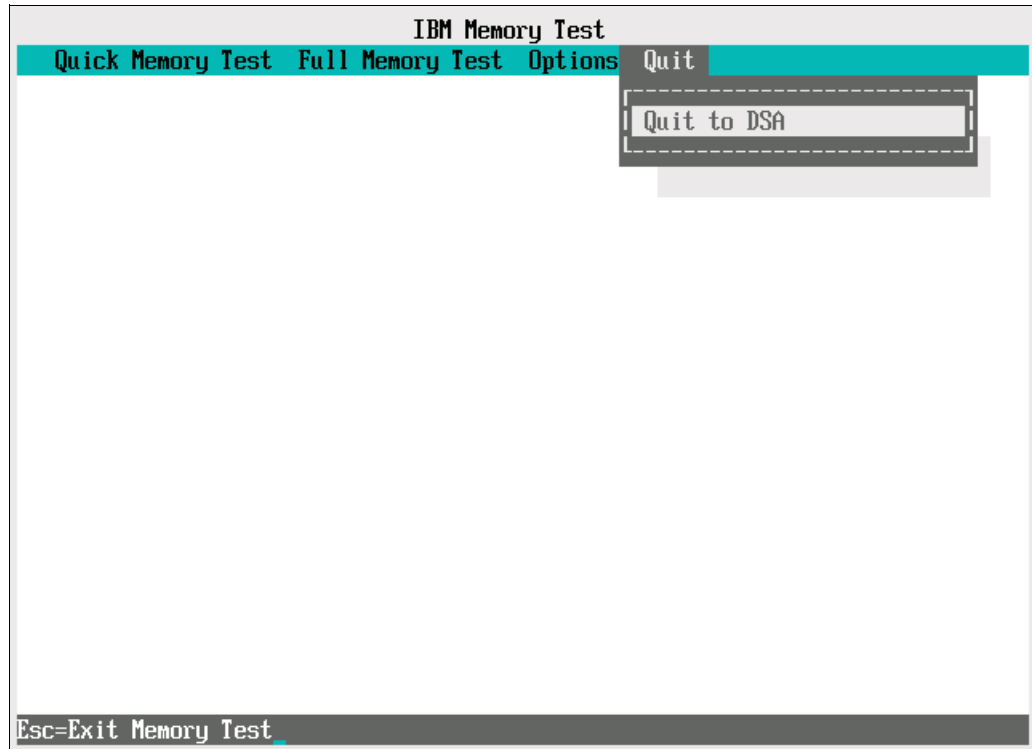

Figure 2-21 System memory test page
2. The IBM Memory Test page opens. Use the arrow keys to select **Quit** and press Enter to exit the memory test, as shown in Figure 2-21.